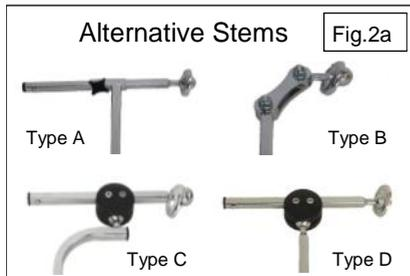

Fig.2a
- The RMS Contour Adjustable Headrests, may be supplied with an option of four different ball mounted stems Fig.2a and are fully compatible with all standard RMS 2, 4 and Multi-Point fixing Headrest Stem Mounts Fig.2b and with RMS Quick